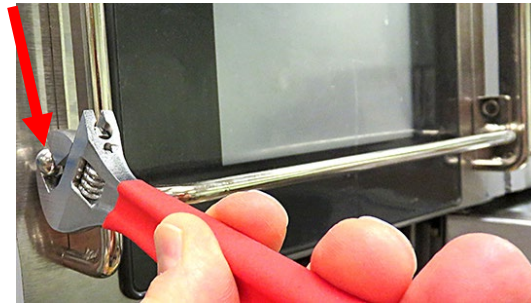

Figure 10
13. If a guard rail is installed, remove the acorn nuts, washer and plates on both ends of the guard (see Figure 10). If not, skip to step 15